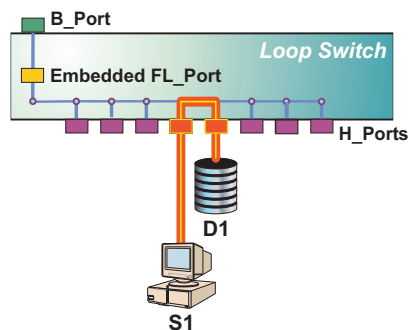

Figure 26: Private loop connectivity
- **Private loop** — A private loop is not connected to a switched fabric, and the switch's embedded E_Port and FL_Port are inactive. All devices attached to the loop can communicate only with each other. Private loop connectivity is illustrated in Figure 26.